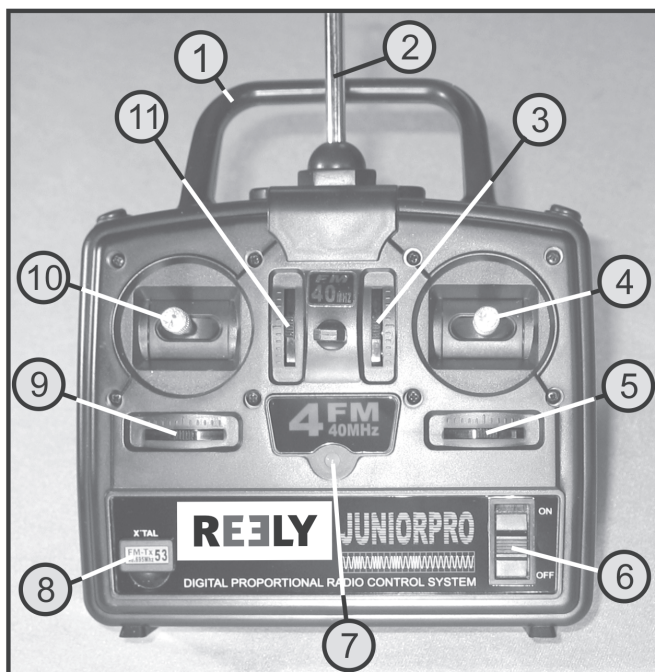

Figure 2
However, before each operation of the transmitter, you must ensure that the control stick for the motor rotation speed (see figure 2, Pos.10) is in the Motor Off position.
When the rechargeable batteries are charged or when new batteries are inserted, pull out the antenna of the transmitter all the way and, for test purposes, switch the transmitter on via the function switch (see figure 2, Pos. 6). The LED display (see figure 2, pos. 7) glows green and signals an adequate power supply to the transmitter.
- If the control stick for the motor rotation speed (figure 2, pos. 10) is in the lowest position, the transmitter (5) emits short audio signals.
If you do not hear the audio signals, push the control stick for the motor rotation speed into the lowest position. It may also be necessary to push the trim slider for the motor function (see figure 2, pos. 11) further down from the centre position for the controller to clearly identify the control stick position „Motor Off“.